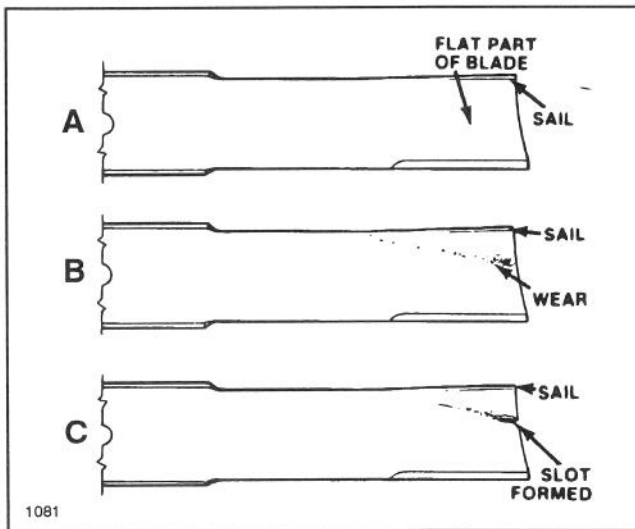

Figure 12
1. Examine cutting ends of the blade carefully, especially where the flat and curved parts of the blade meet (Fig. 12-A). Sand and abrasive material can wear away the metal that connects the flat and curved parts of the blade. Check the blade(s) before using the mower. If wear is noticed (Fig. 12-B), replace the blade(s).